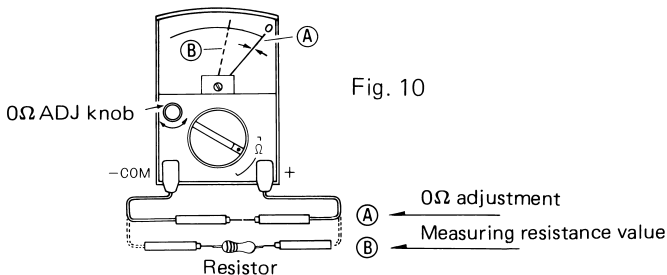

Fig. 10
0Ω adjustment, in other words, fullscale adjustment must be done prior to using the tester. Short + and -COM terminals together as shown in Fig. 10 (A), turn the zero ohm adjuster (0Ω ADJ) knob, and align the indicator pointer to the rightmost 0Ω line of the Ω scale. After this adjustment is finished, proceed to measurement. If this adjustment is done whenever the range is switched, more accurate indicated value can be obtained.